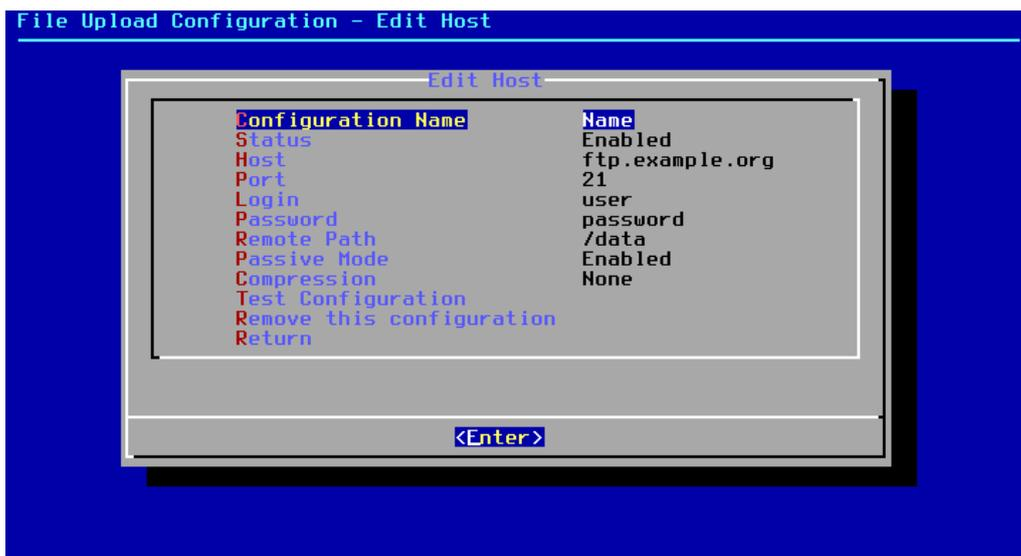

Figure 28: Automatic data upload new FTP server configuration
- Enter Configuration Name (for example NBIPM-RINEX_UTCr) (fig. 28)